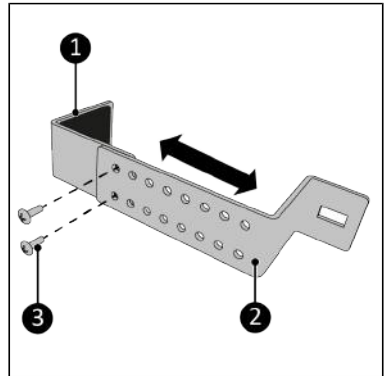

Figure 86.
3. Screw the top part (Figure 86, pos. 1) and the bottom part (Figure 86, pos. 2) together using the two M5 x 7 mm screws (Figure 86, pos. 3). Make sure the width is slightly larger than the width of the frame of the window.